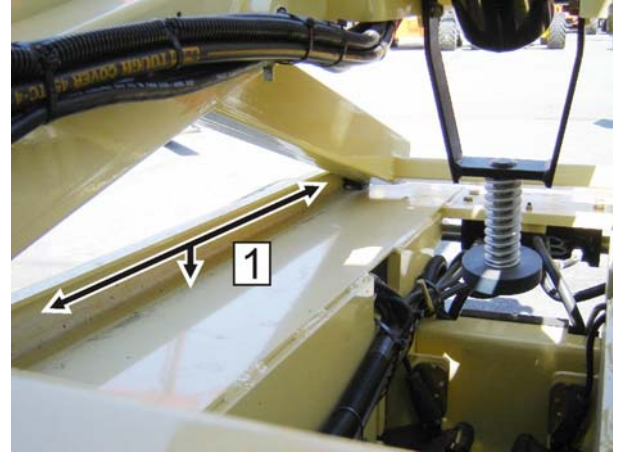

Figure 6-2. Lower Slide Pad Channel
2. Locate the Lower and Upper Slide Pads and remove all dirt and debris from the slide channel area (1, 2). Refer to Figure 6-2., Lower Slide Pad Channel.
3. Apply a layer of grease along the inside and bottom of the lower slide channel (1) on both sides of the machine.